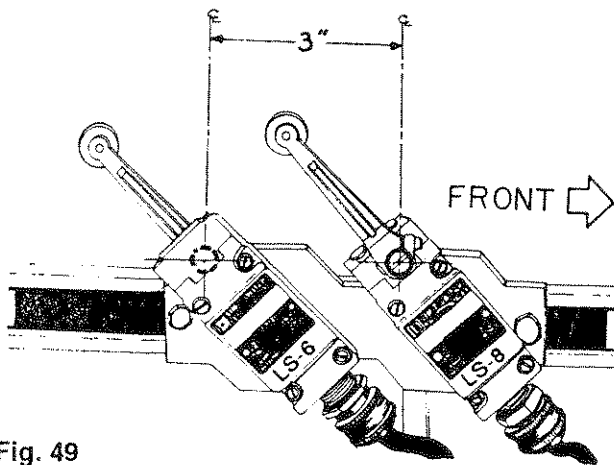

Fig. 49
1. Loosen the mounting bolt and slide **LS8** forward or rearward so that the center of the switch shaft is 3" forward of the center of the switch shaft on **LS6**, see Fig. 49.